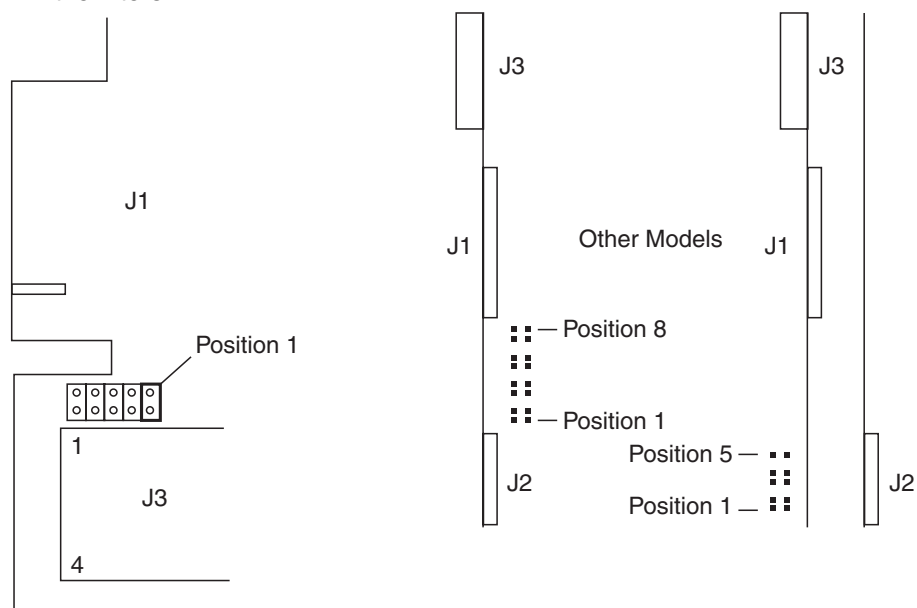

Figure 4-45. HDD Jumping
7. Ensure that there is a jumper in position 1 (according to the disk model). See Figure 4-45.